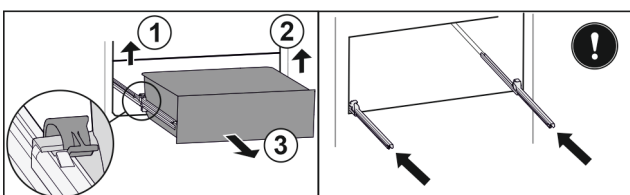

Fig. 36
- ▶ Lift left clamp and simultaneously pull drawer forwards on the left. Fig. 36 (1)
- ▶ Lift right clamp and simultaneously pull drawer forwards on the right. Fig. 36 (2)
- ▶ Remove drawer to the front. Fig. 36 (3)